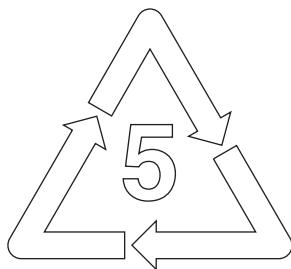

Fig. 6
- (d) The symbol shown in Fig. 6 is found on waste bin A.
State **two** pieces of information given by the symbol shown in Fig. 6.